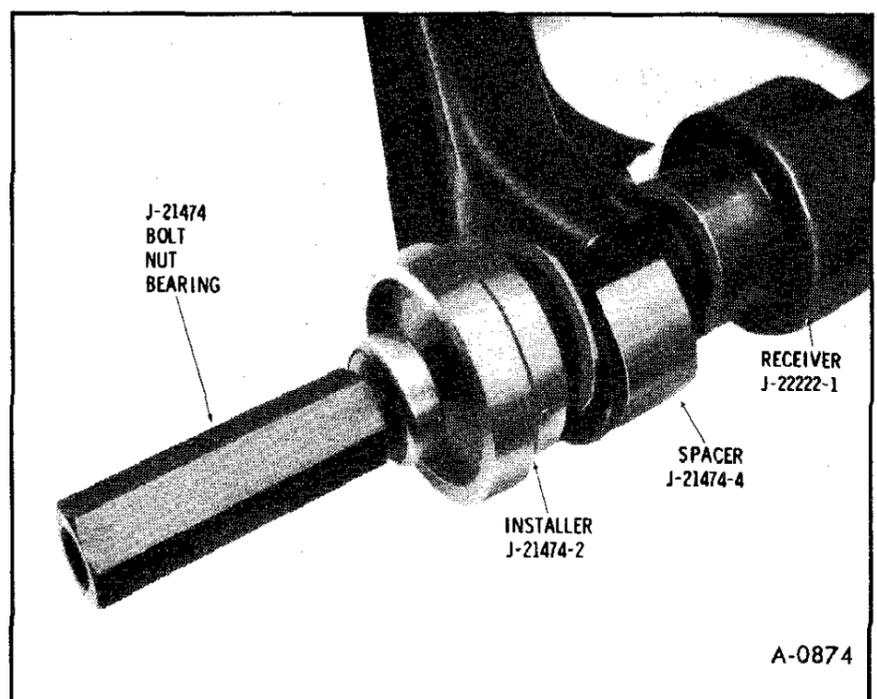

Figure 16—Installing Upper Control Arm Bushing
1. Install tools and press bushings into control arm (figure 16).